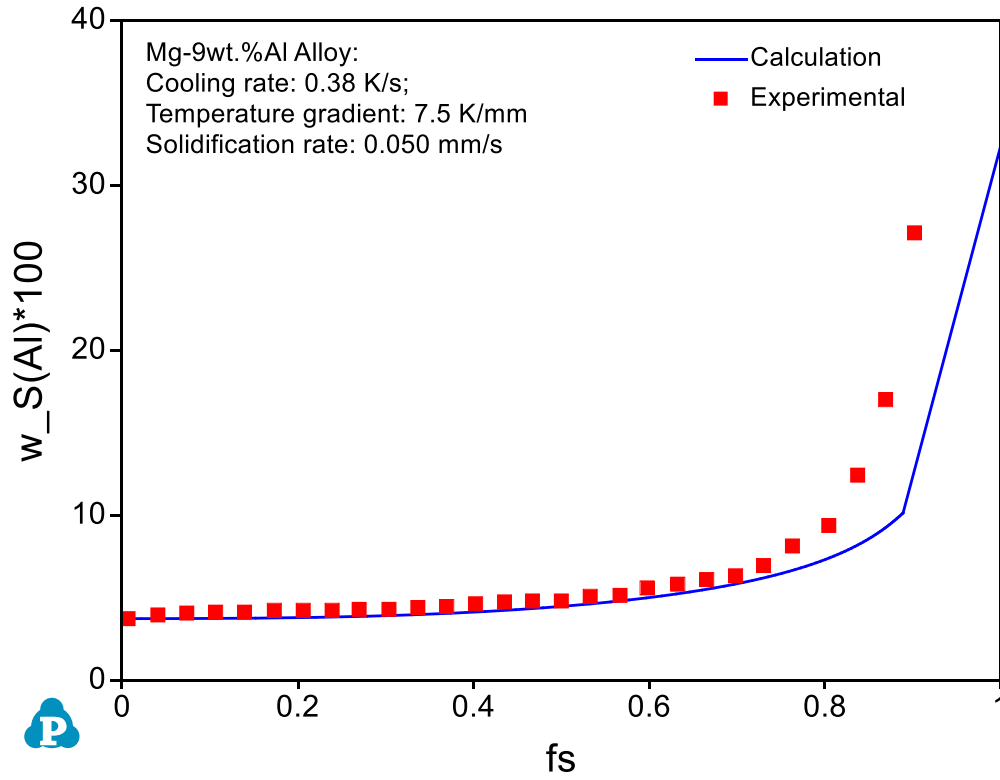

Figure 5.1.5: Comparison of the calculated and experimentally measured Al composition profile vs. f_s in the primary (Mg) dendrites.
- Experimental data can be imported through menu Table → Import table from File. The comparison of the calculated and experimentally measured Al composition in solid is shown in Figure 5.1.5.